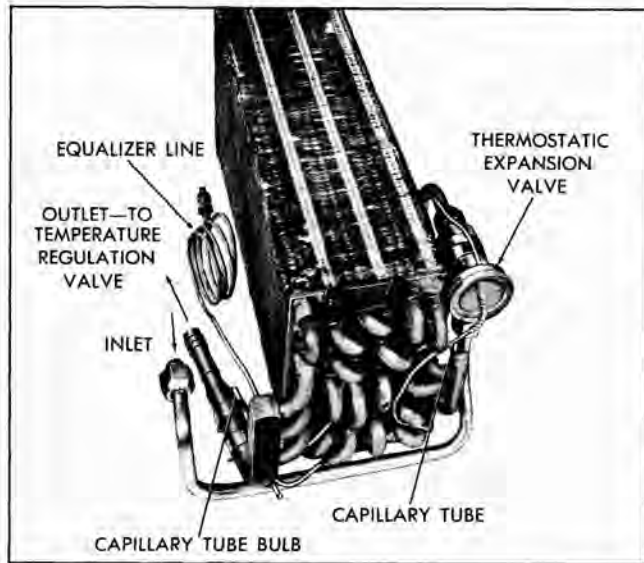

Fig. 6-39 Thermostatic Expansion Valve at Evaporator Outlet Pipe
14. Disconnect thermostatic expansion valve capillary tube bulb and equalizer line at evaporator outlet pipe and plug all openings (Fig. 6-39).